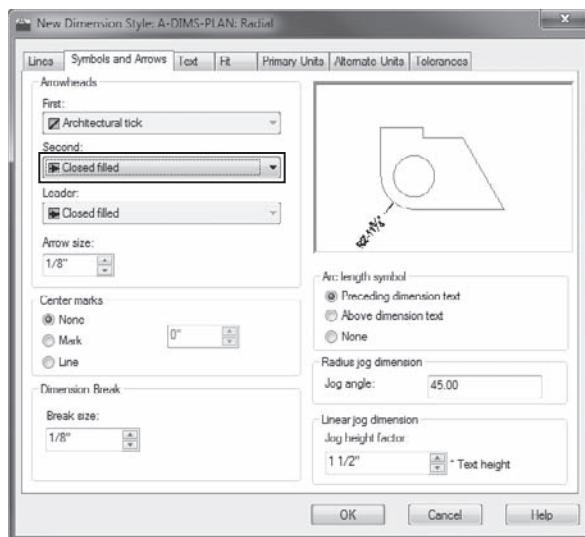

FIGURE 12.36 Changing the Arrowhead style for the Radial A-DIMS-PLAN child style
- From the Symbols and Arrows tab, click the Second drop-down list within the Arrowheads group to change from Architectural Tick to Closed Filled, as shown in Figure 12.36.